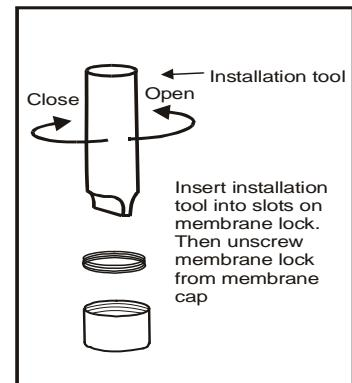

Figure 64: Use tool to take out (or put in) membrane
5. Using the installation tool, unscrew and remove the membrane lock from the membrane cap. See Figure 64 on the following page.